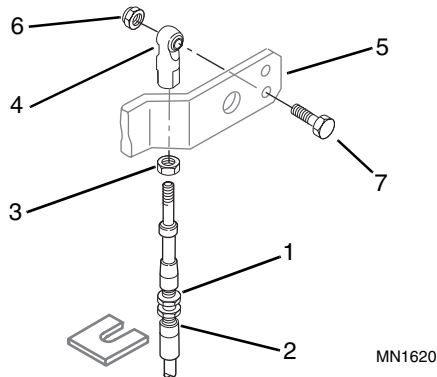
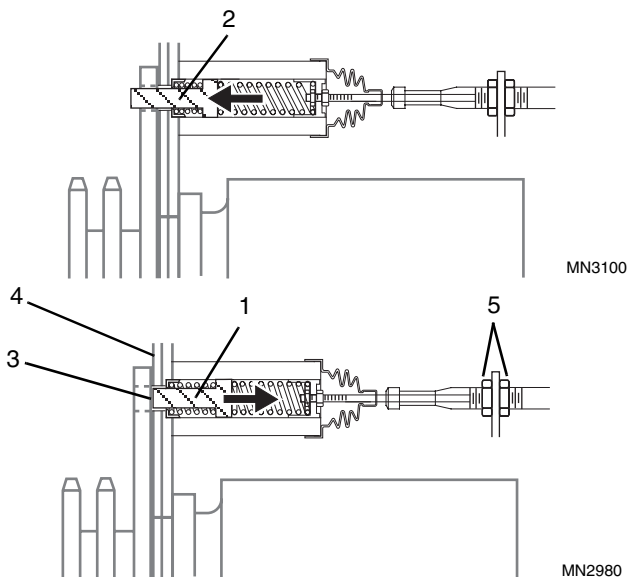

Figure 9-103 Park Lock Cable Operator Protective Structure Mount
Figure 9-104 Park Lock Cable Chassis Mount
17. At the rear of the seat bar, loosen the hex jam nut (Fig. 9-103, 3) against the ball joint (4).
18. Detach ball joint from seat restraint bar pivot arm (Fig. 9-103, 5) by removing the elastic locknut (6) and capscrew (7). Discard locknut.
19. Turn the ball joint (Fig. 9-103, 4) onto the cable to retract either pin (Fig. 9-104, 1) away from the drive sprocket. Turn the ball joint toward the end of the cable to extend either pin (2) closer to the drive sprocket.
20. With the seat bar still lowered, temporarily attach both ball joints (Fig. 9-103, 4) to the seat restraint bar pivot arm (5) and inspect each pin position again. Repeat Step 19 as required until the face of the each lock pin (Fig. 9-104, 3) is flush with the inner wall of the respective chain case (4).
21. If either pin cannot be adjusted using Steps 17 through 20, loosen the cable housing bulkhead nuts (Fig. 9-104, 5), reposition the cable slightly and tighten the bulkhead nuts (5). Repeat Steps 17 through 20.
22. Secure each cables ball joint (Fig. 9-103, 4) to the seat restraint bar pivot arm (5) with capscrew (7) and a new elastic locknut (6). Tighten the hex jam nut (3) on each cable to the ball joint (4)